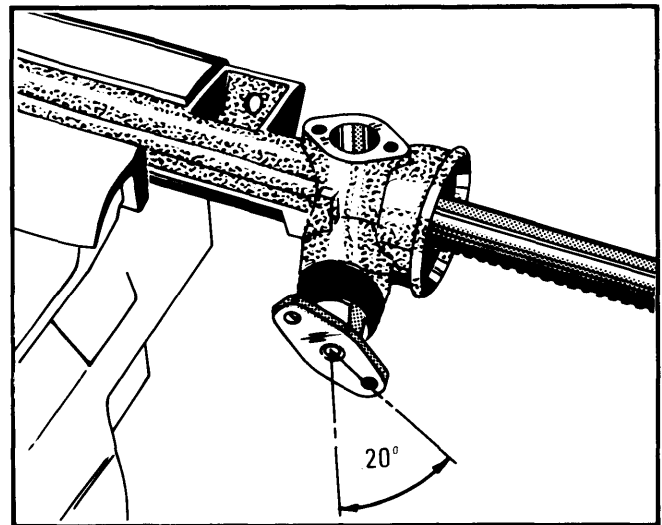

Fig. 2 View Showing Correct Alignment of Pinion Flange
2) Push rack until lock nut touches steering gear housing. Install "O" ring and thrust washer, lubricate the pinion and install with nut locking groove, facing away from plunger housing. Starting with the pinion flange vertical, rotate it to the left through approximately 20°. See Fig. 2.